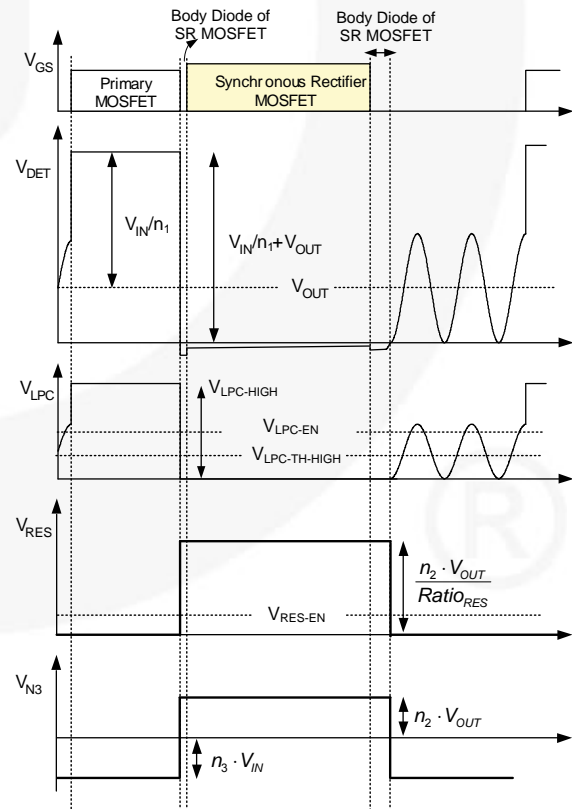

Figure 5. Typical Waveforms of QR High-Side Flyback Converter with FAN6224
For high-side application, R_4 is recommended to be equal or larger than 27 k Ω for clamping negative voltage of the RES pin. As Figure 5 shows, when primary-side MOSFET (Q_1) turns on, the voltage across N_3 (V_{N3}) is negative. Through the voltage divider of the RES pin, the RES pin voltage (V_{RES}) is also negative. To avoid the controller being damaged by negative voltage, the RES pin internally sources current when V_{RES} is less than $V_{RES-SOURCE}$ (0.2 V). Therefore, R_4 cannot be too small to clamp the negative voltage on the RES pin. After the resistance of R_4 is determined, R_3 can be calculated by (10).